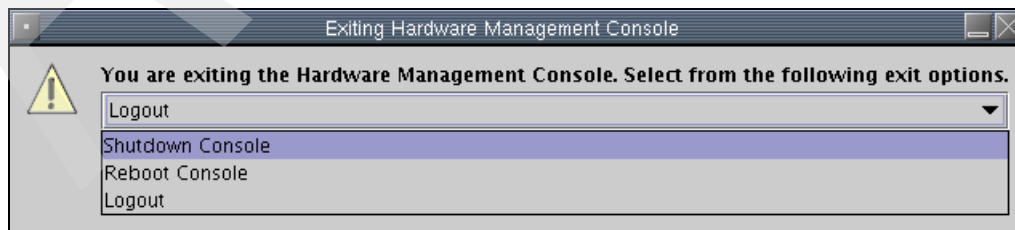

Figure 3-18 Exit pull down menu
4. Click the pull down arrow. You will see the three options, Shutdown, Reboot, and Logout. See Figure 3-18. To shut down the HMC, highlight **Shutdown Console**.